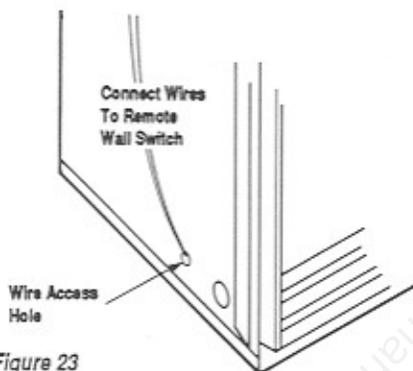

Figure 23
**Step 1.** Install the remote wall switch in a convenient location and route the 18 gage millivolt wire through access hole behind gas line (Figure 23). At least 12" of wire is required in the control compartment.